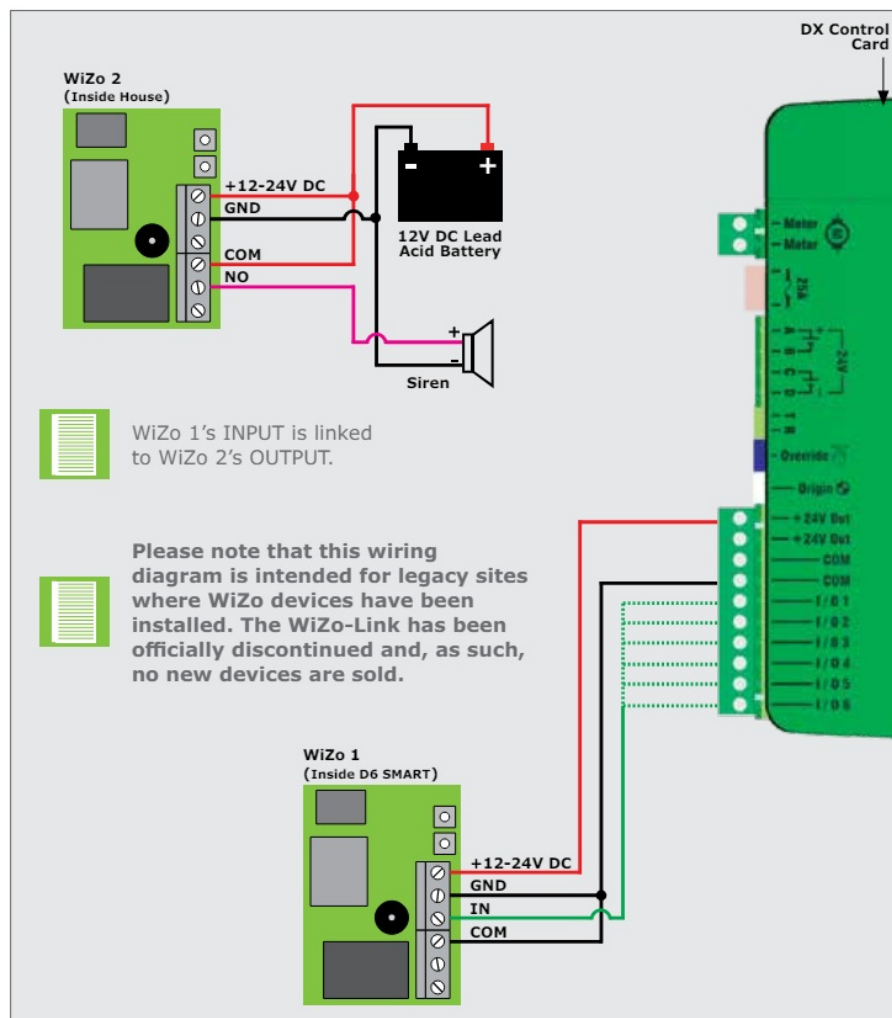

FIGURE 89. ANTI-TAMPER ALARM WIRING WITH TWO WIZOS
-  The trigger/TRG (green wire) in Figure 89 can be either wired into IO1 – IO6, depending on the sites individual needs